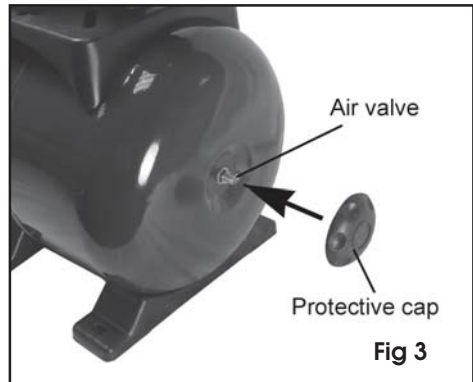

Fig 3
1. Unscrew the large protective cap on the end of the pressure tank to reveal the air valve as shown in Fig 3.